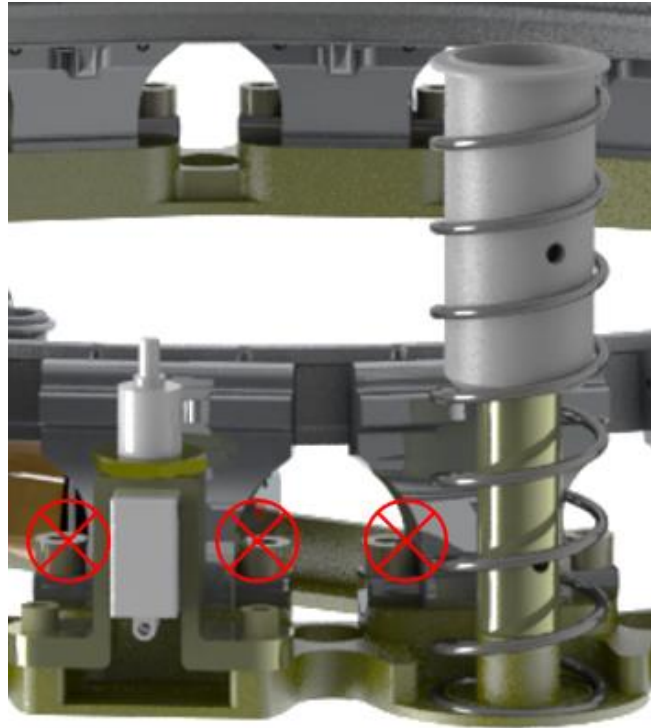

Figure 7-1: Exposed greased surfaces of Leaves
1. Do not touch the sides of the Leaves. Be especially careful when installing fasteners to attach the ALB to adjoining structures to prevent the tool from slipping and damaging Leaf. See Figure 7-1.